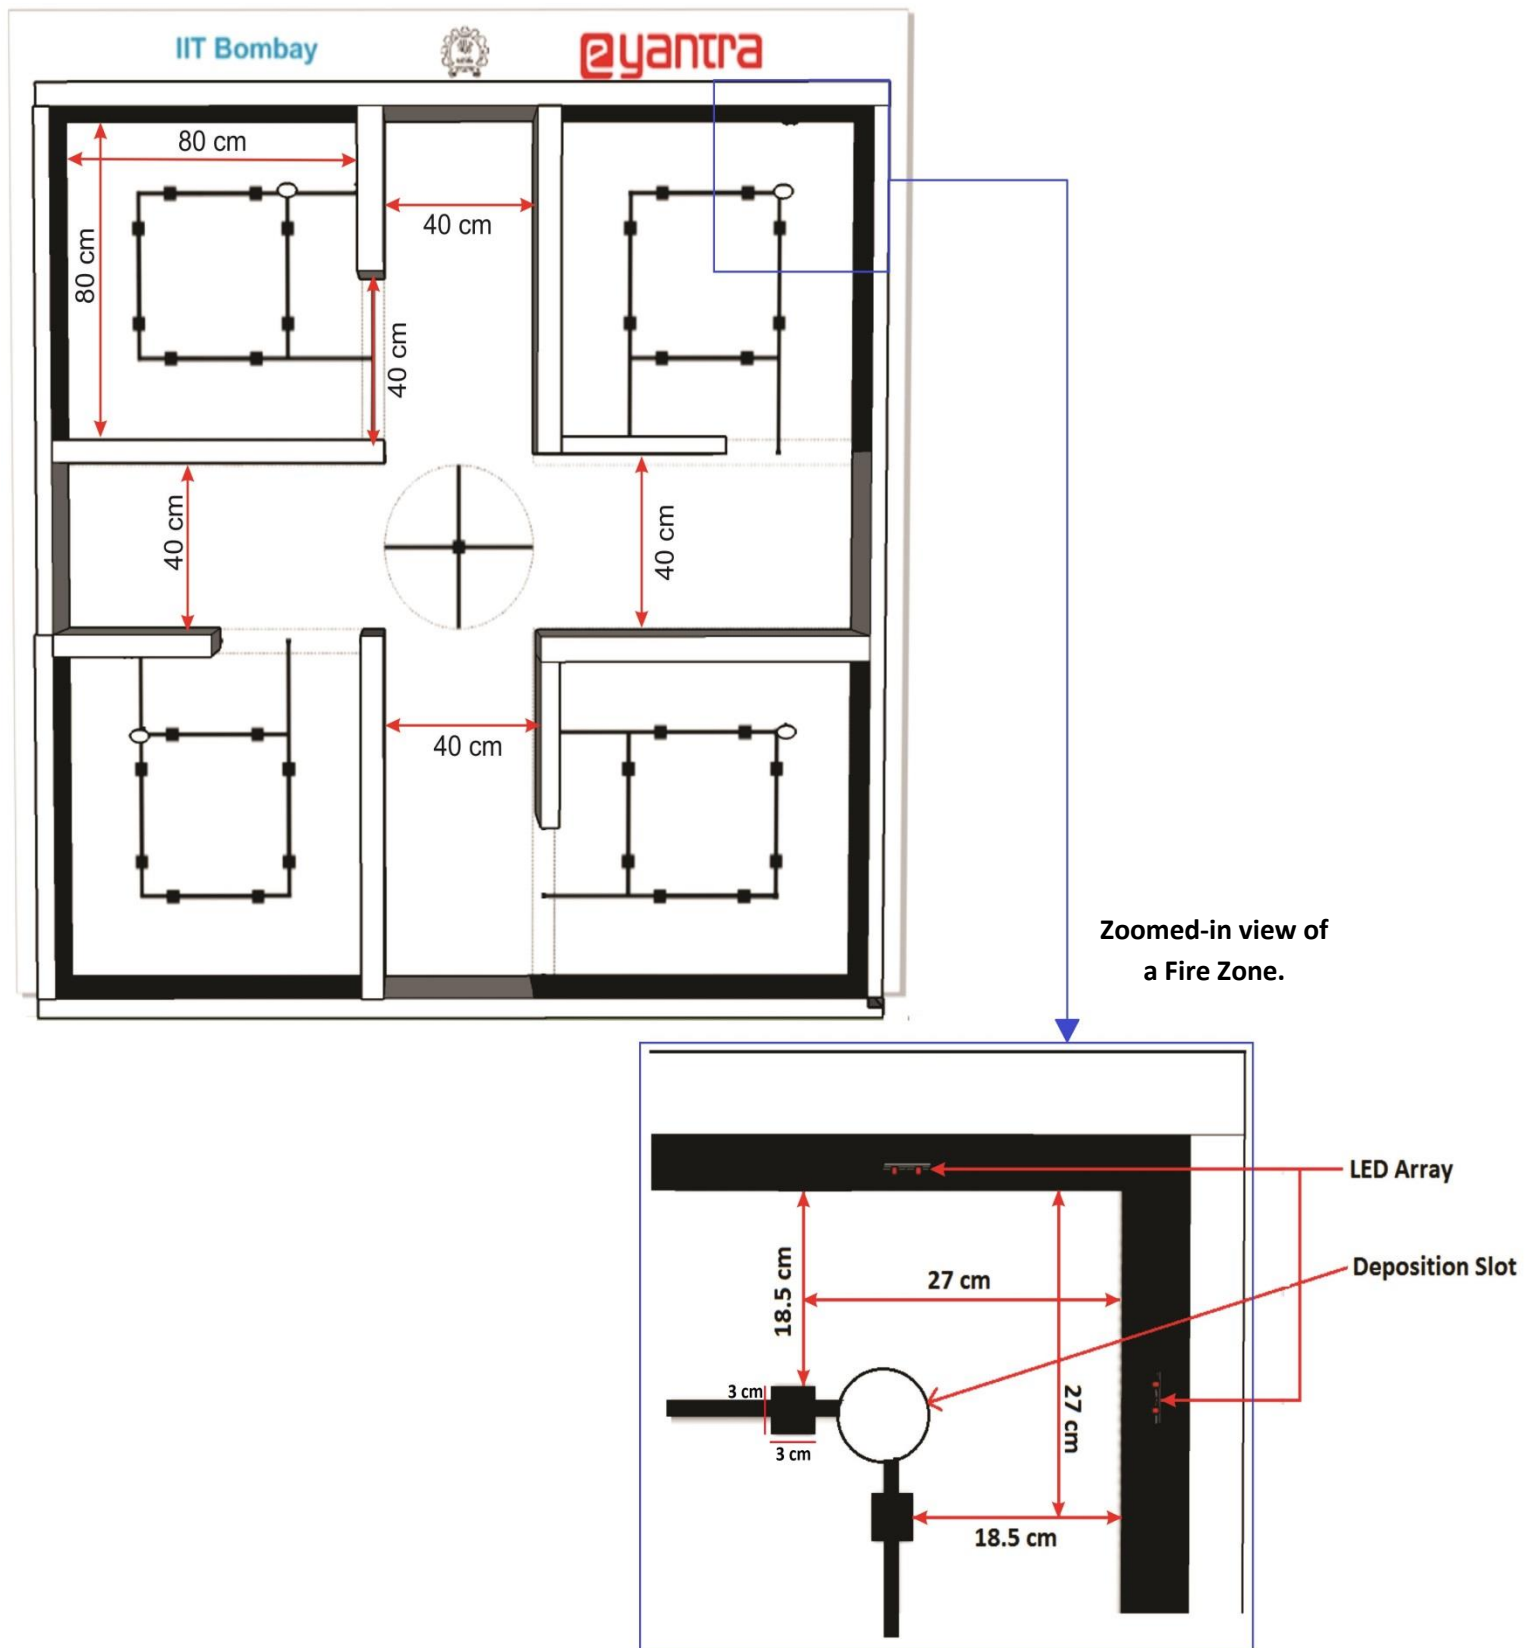

Figure 3: Apartment with an Instance of a Fire Zone with Dimensions
Details of arena design: (Refer to Figure 3)
- **Fire Zone:** The four inner corners of a room where a fire can be placed are called Fire Zones. They are referred to as **FZ1, FZ2, FZ3** and **FZ4**. In a room, a fire can be placed in any corner, except the corner where the entrance is. An instance of a fire zone with dimensions is illustrated in Figure 3.